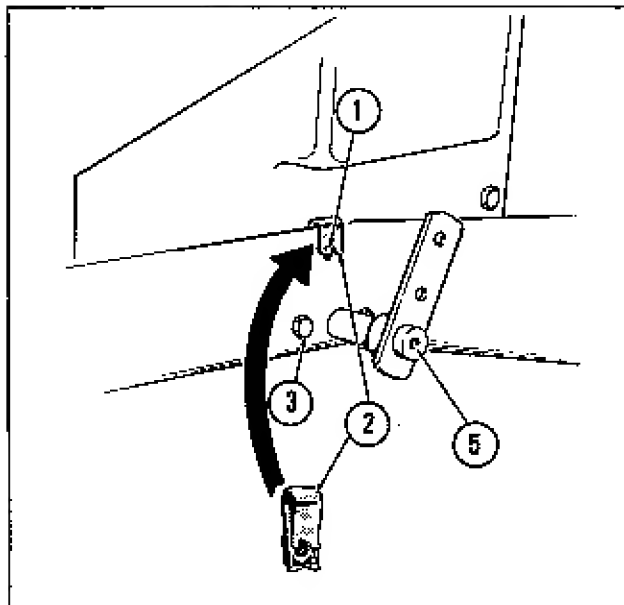

Figure 1
1. On the right hand side of the tractor frame, locate a mounting hole, No. 1-Fig. 1, above the lift lever shaft and at the upper edge of the tractor frame. Attach the nut retainer, No. 2-Fig. 1, at this point, with the nut on the inner surface of the frame as shown.
2. Remove the 2 hex cap screws from each side, No. 3-Fig. 1, of the lift lever shaft and mount the quadrant assembly, No. 4-Fig. 2, to the side of the tractor frame as shown in Figure 2, using the 2 hex cap screws previously removed. Insert a hex cap screw, 5/16-18 x 3/4" lg. SAE Grade 5, and 5/16 lock washer into the upper mounting hole of quadrant and tighten into the nut retainer installed during step 1.
3. Place the spacer, "F" -page 2, within the hole in the end of the lift lever assembly, "E" -page 2, and position a washer, "G" -page 2, on each side of the spacer. Insert a hex cap screw 7/16-14 x 1 1/2" lg., "J" -page 2, with lock washer, through the washers and spacer and attach the lift lever assembly to the end of the lift lever shaft. Refer to No. 5-Figs. 1 & 2. Tighten the hex cap screw securely.